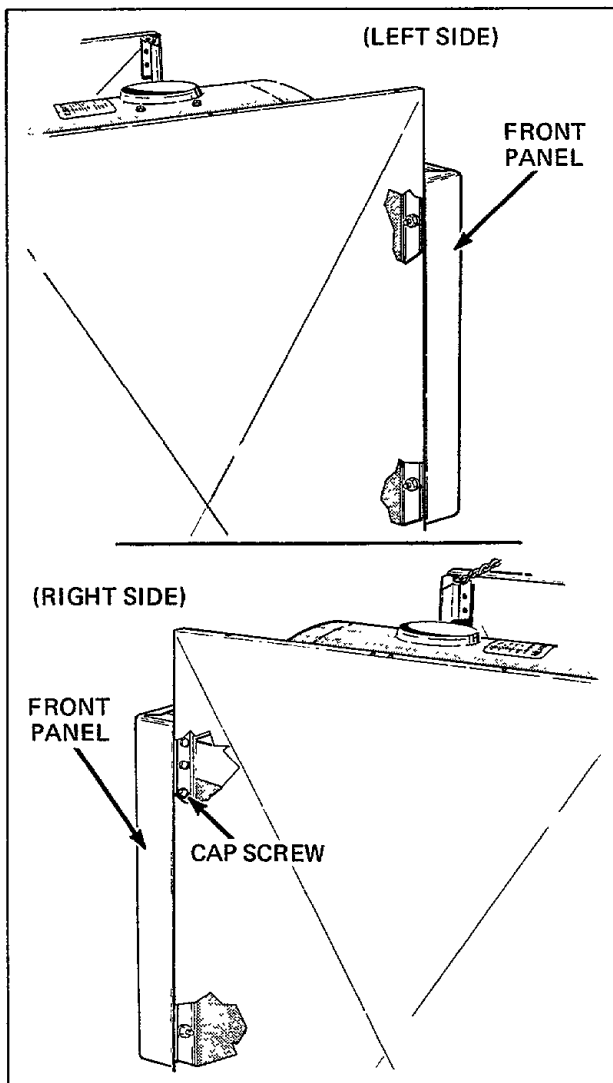

Figure 15
- g. Remove two nuts and lockwashers, *Figure 15*, holding front panel assembly to left leg (leave bolts in place).
- h. Remove nut and lockwasher (bottom), and cap screw (top), *Figure 15*, holding front panel assembly to right leg.